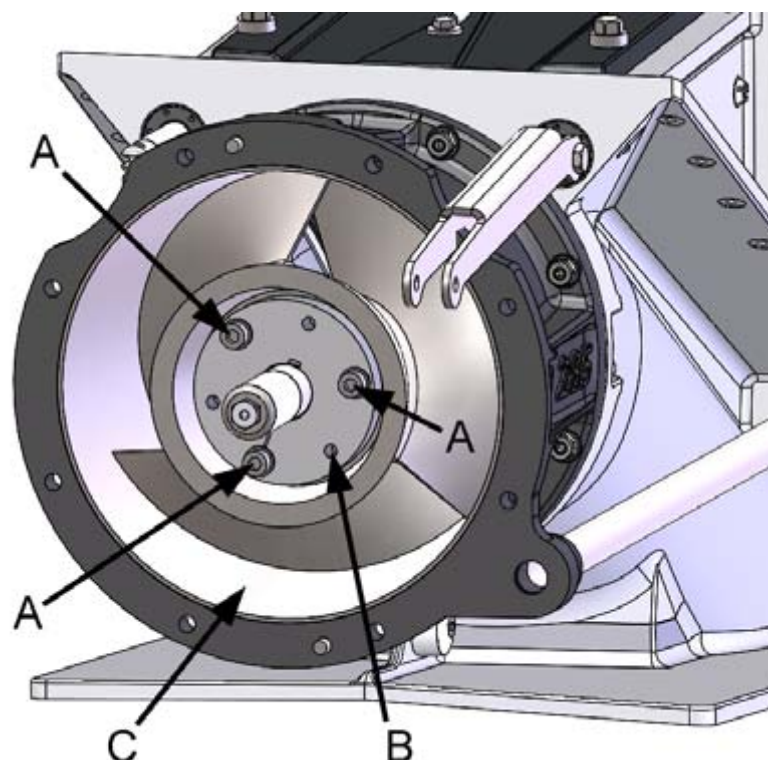

Figure 30. Impeller fastening screws, mounting cone
4. Loosen the impeller fastening screws (figure 30, point A).
5. Remove one screw completely and screw it into the threaded hole in the plastic mounting cone (figure 30, point B).